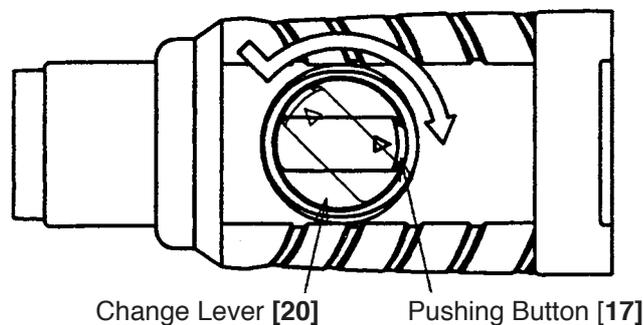

Fig. 9
(1) Disassembly of the striking mechanism section
Push in the Second Hammer **[27]** with a drill bit or a screwdriver. Remove the Striker **[35]** chucked by O-ring (C) **[32]**. Push the Pushing Button **[17]** fully when the Change Lever **[20]** is positioned "Rotation Only" (⚙️ mark) as shown in Fig. 9. Then turn the Change Lever **[20]** by 135° clockwise. Ply out the Change Lever **[20]** at this position. Remove the Tapping Screw (W/Flange) D5 x 35 **[9]** from the Gear Cover **[10]** and remove the Gear Cover **[10]**.